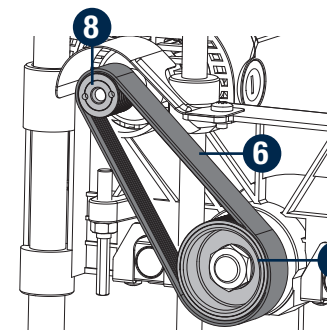

Fig. 19e
- All of the belt grooves should be engaged in the final position shown in Fig. 19e and the pulleys should rotate smoothly.